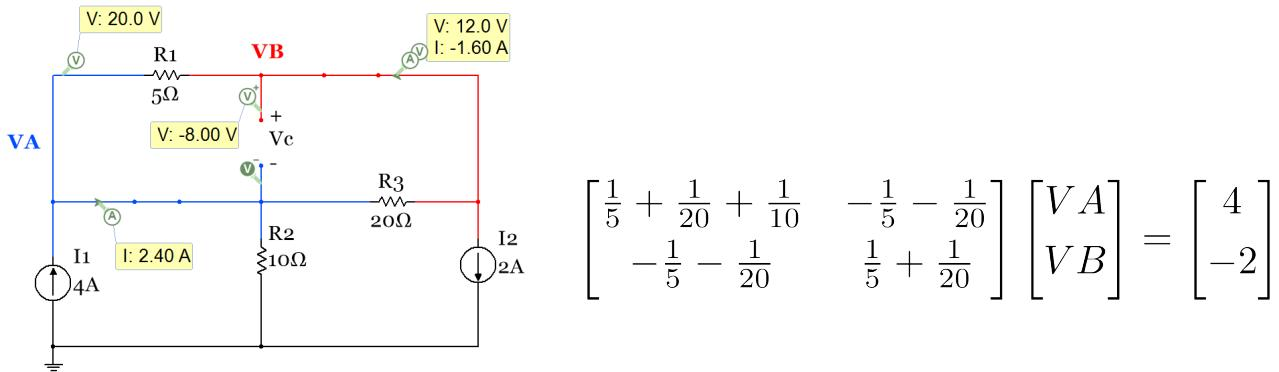

Figure 3.28: Circuit in Example 3.10 redrawn and nodal matrix solution
Step 1 in solving a DC steady state problem is to replace all of the capacitors with open circuits and all of the inductors with short circuits. Once the circuit is redrawn (as shown in Figure 3.28) it is clear that this is a 2-node nodal matrix problem. Node V_A is color coded blue and node V_B is color coded red in the circuit.
Example 3.11) Solve the DC steady state circuit in Figure 3.28 to determine the capacitor charges and perform a power analysis in the circuit and show that equation 1.10 is satisfied ($\sum P_{\text{supplied}} = \sum P_{\text{dissipated}}$). Verify the power analysis with Multisim.